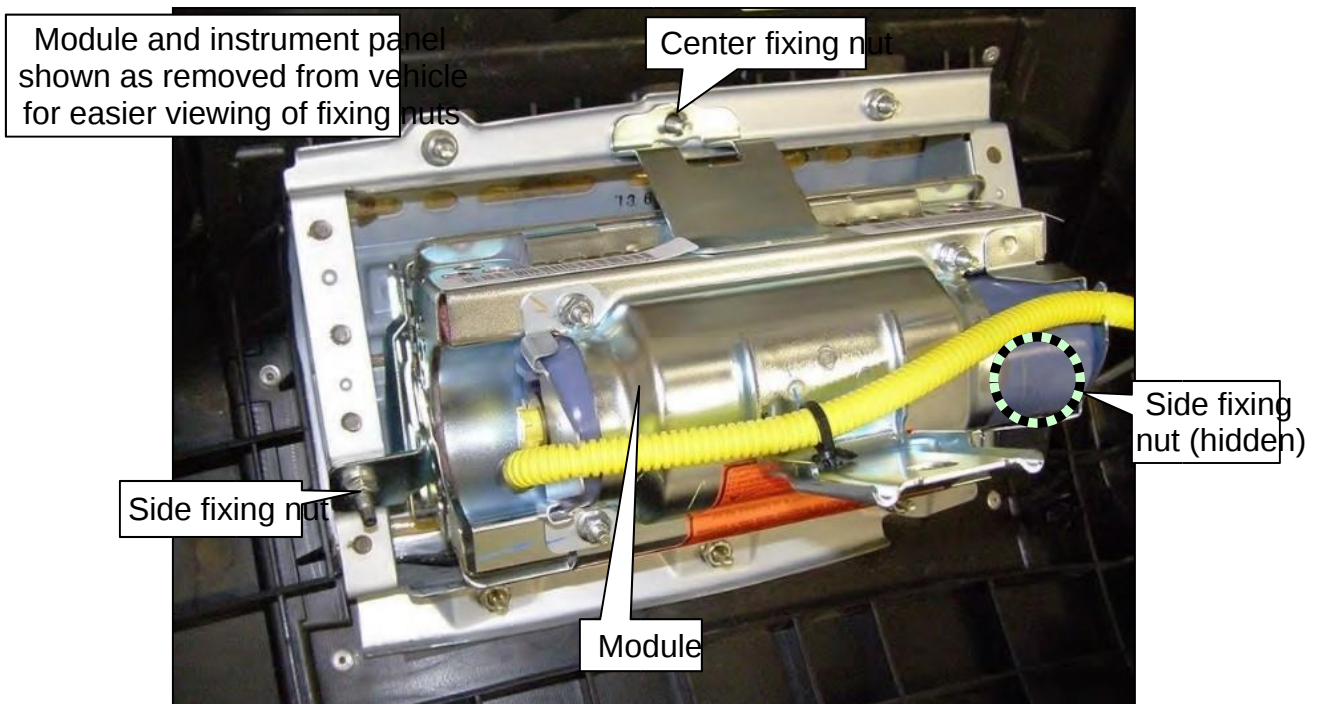

Figure 14
- a. Using the three (3) new fixing nuts supplied with the replacement module, secure the module mounting brackets to the supports on the back of the instrument panel.
- Fixing nuts torque: 6.0 N•m (0.61 kg-m, **53.5 in lbs**) **HINT:** One of the fixing nuts is hidden (see Figure 14).